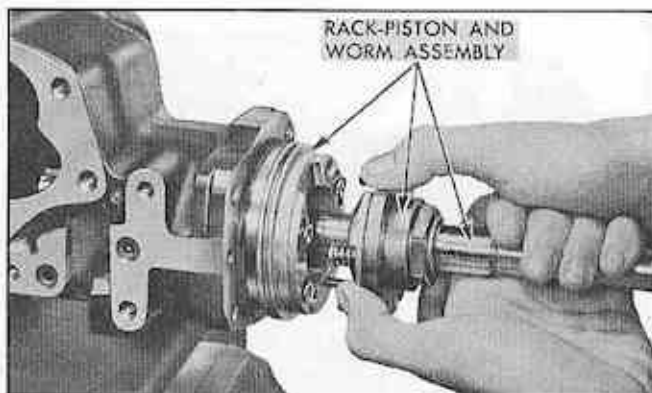

Fig. 63 Removing Rack-Piston and Worm Assembly
1. Pull rack-piston and worm assembly out of housing (Fig. 63).